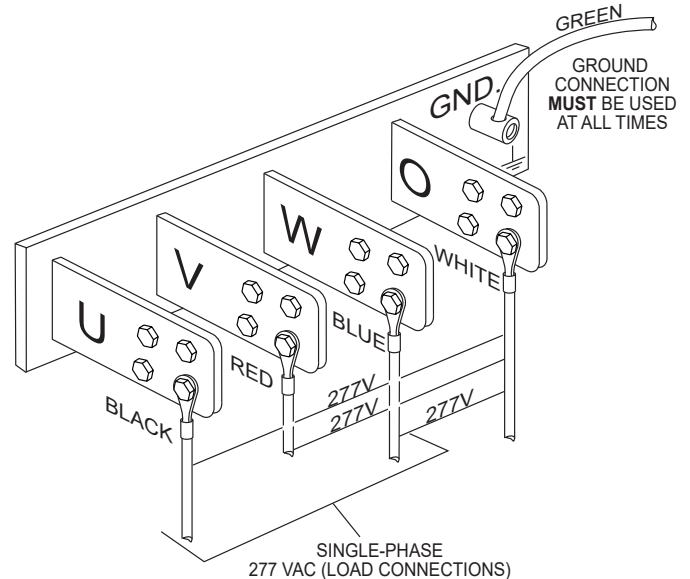

Figure 23. UVWO Terminal Lugs (Single-Phase 277-Volt Connections)
2. Connect the load wires to the UVWO terminals as shown in Figure 23.